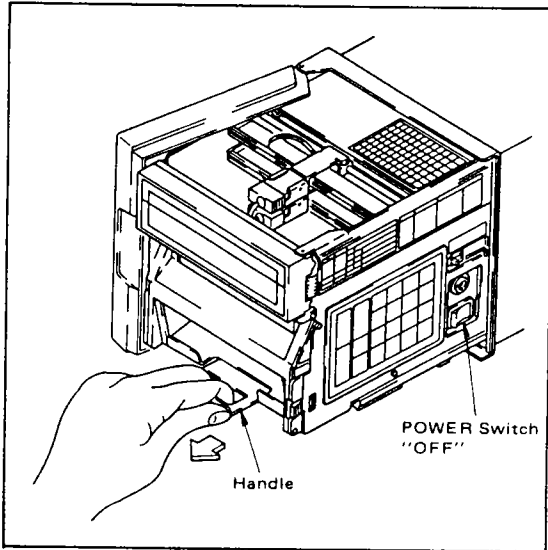

Figure 6-3. Handle.
- (1) Pull out the internal assembly (be sure to use the handle) and turn the power supply switch "OFF" (see Figure 6-3).